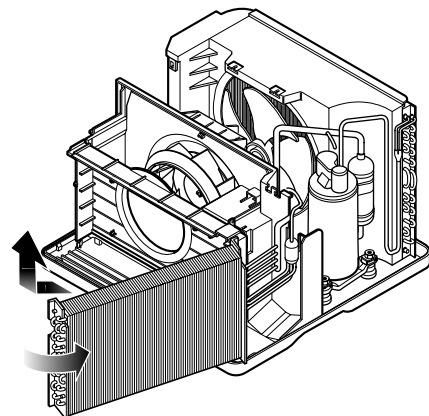

Figure 5
9. Move the evaporator forward pulling it upward slightly. (See Figure 5)